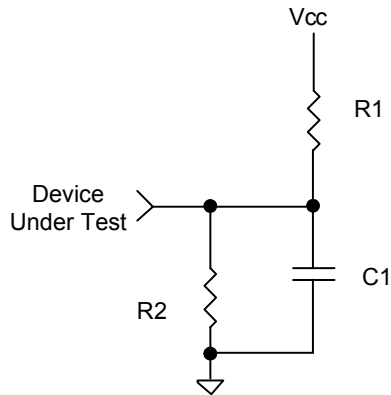

Figure 10: AC Test Load
6. With load specified in Figure 10 on page 28, Test Load A.
7. With load specified in Figure 10 on page 28, Test Load B.